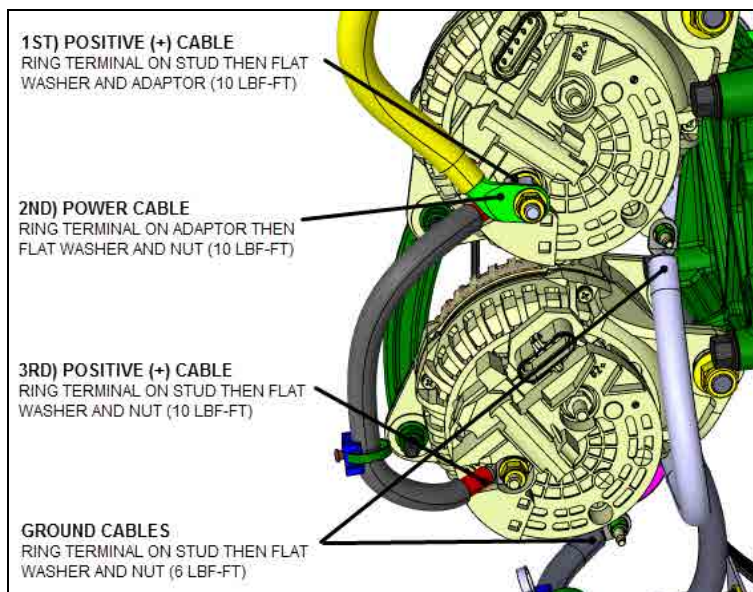

FIGURE 25
14. Cable connection overview. Upper and lower alternator (**FIGURE 25**).